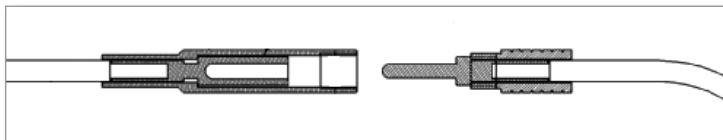

Figure 19-32 Power quick disconnect terminal ends
- terminal connector for power - see Figure 19-32